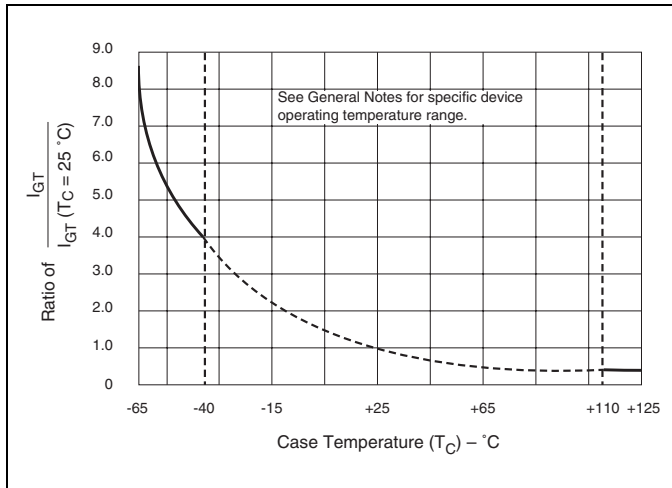

Figure E5.10 Normalized DC Gate-Trigger Current versus Case Temperature
- (2) See Figure E5.10 for I_{GT} versus T_C or T_L.